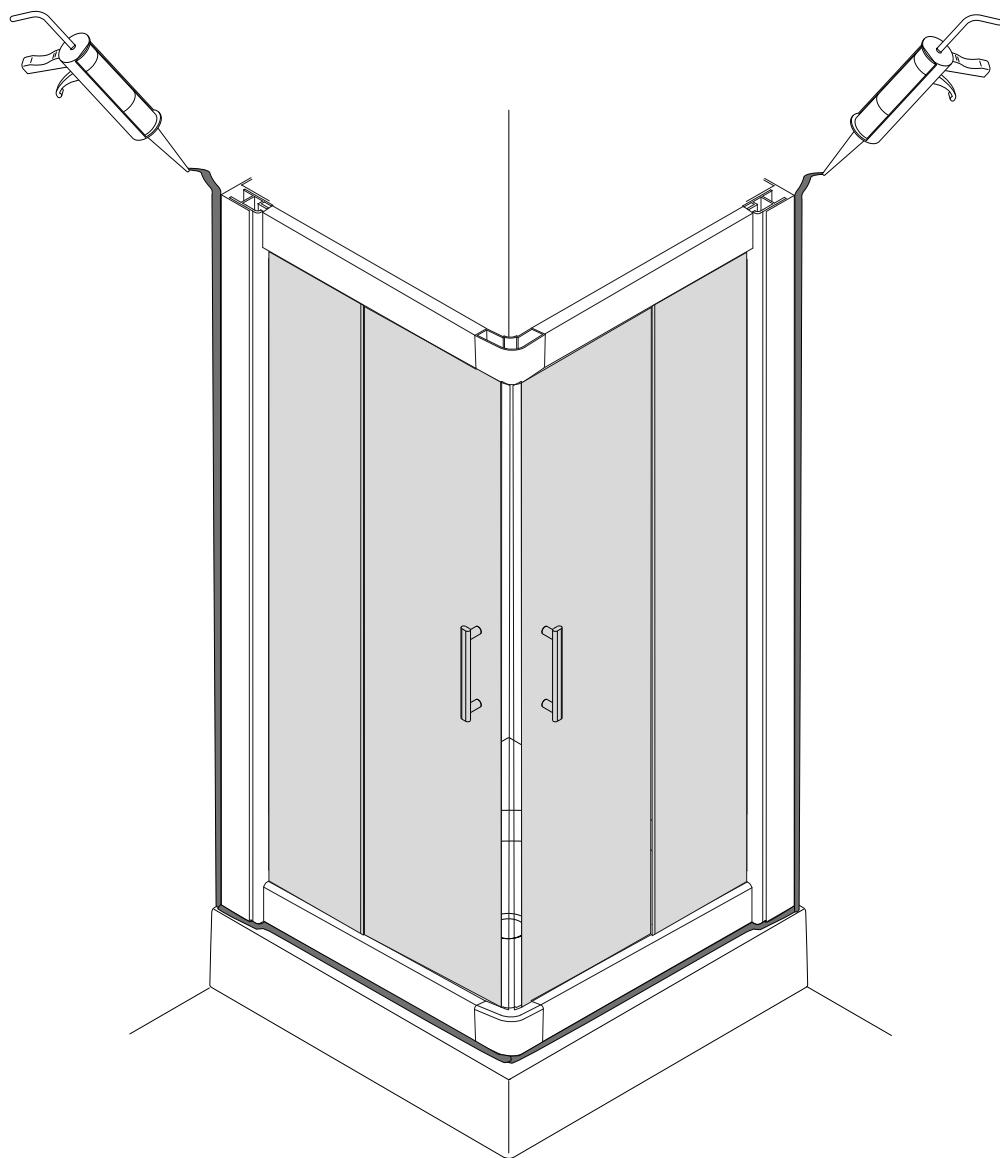

Fig. 12
12) Lay the glass cement between the wall and fixed door profile, bending rail with tray to complete the mounting. As Fig 12.
12) Siliconare nella parte esterna il box doccia. Vedi fig. 12